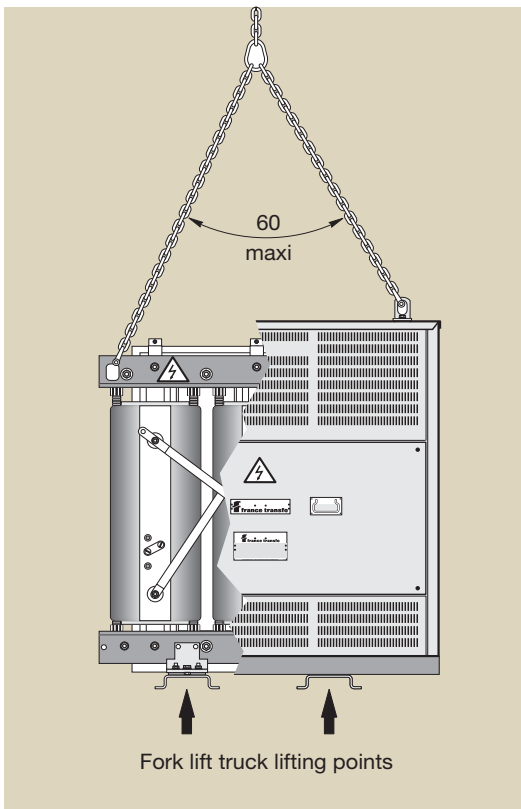

figure 1 - lifting with slings or fork lift truck
■ lifting with slings (figure 1).
either by lifting with slings (figure 1) ;
or by lifting with a fork lift truck (figures 1 and 2).